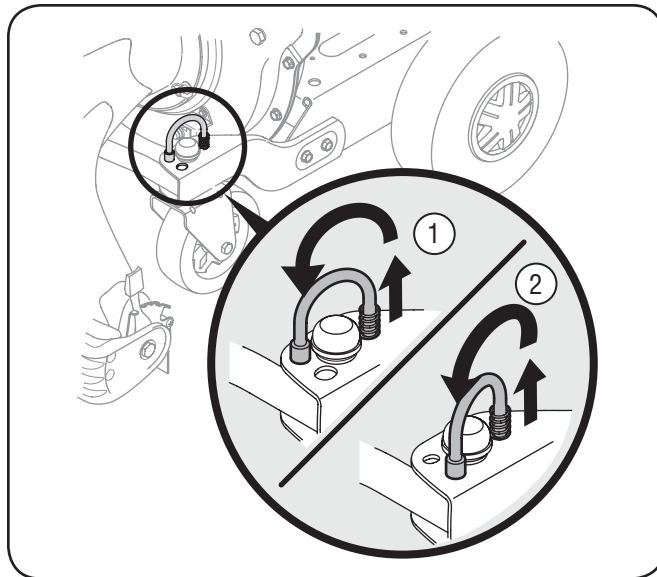

Figure 3-8
1. Place pins in smaller holes to allow casters to rotate freely for maneuvering around trees and flower beds. See Fig. 3-8.